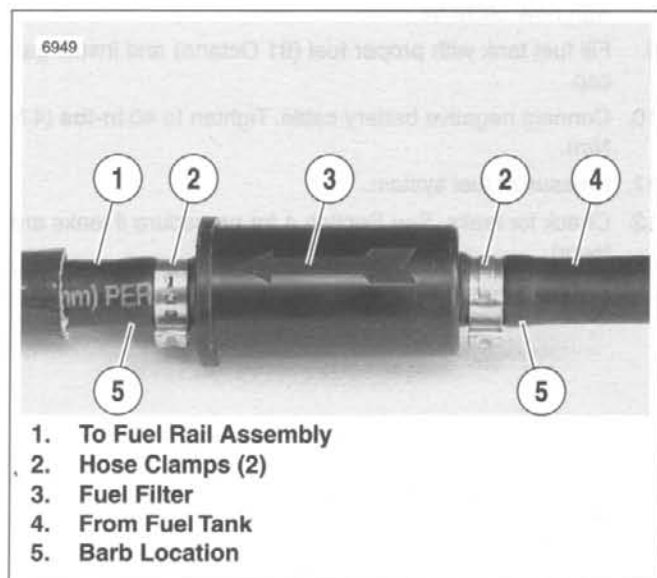

Figure 4-93. Inline Fuel Filter (1999 Models)
See Figure 4-93. There is a replaceable inline fuel filter between the fuel pump outlet at the fuel tank and the fuel rail assembly.
4. See Figure 4-93. Remove hose clamps from both sides to detach filter.
The barb is the larger outside diameter portion (bump) on the fuel fitting. See Figure 4-93.